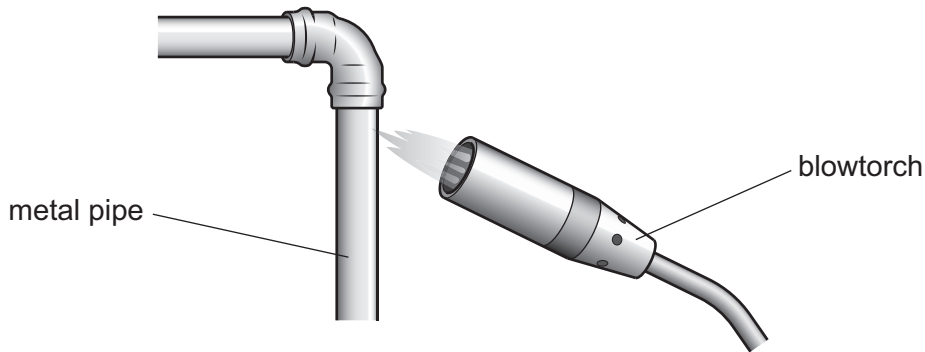

Fig. 2.1
- 2 Fig. 2.1 shows pipes used for plumbing being joined together.